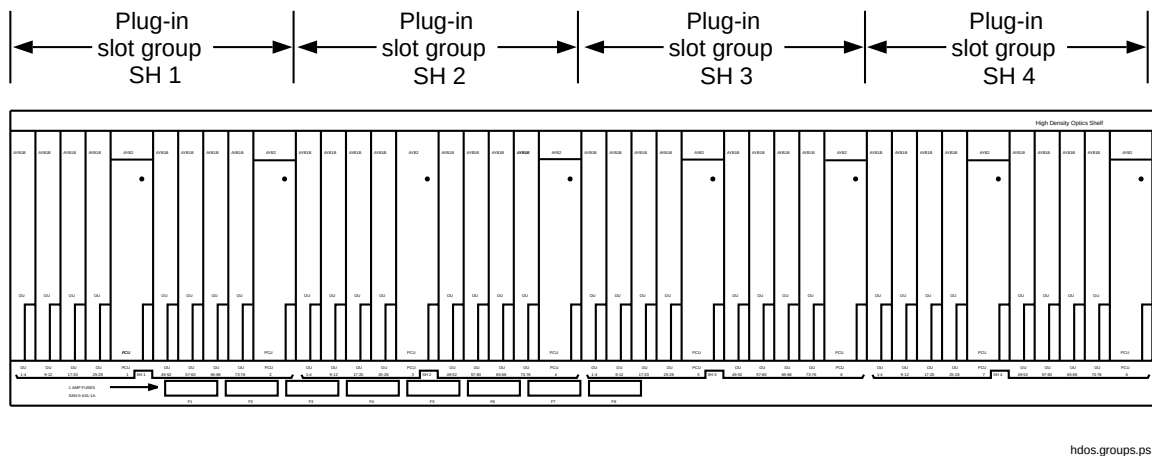

Figure 1 – HDOS Plug-In Slot Groups
6. Choose the plug-in slot group **SH 1** to begin testing (Figure 1).
7. In the plug-in slot group chosen (Figure 1), choose plug-in slots **PCU-1** and **OU 1** to begin testing.